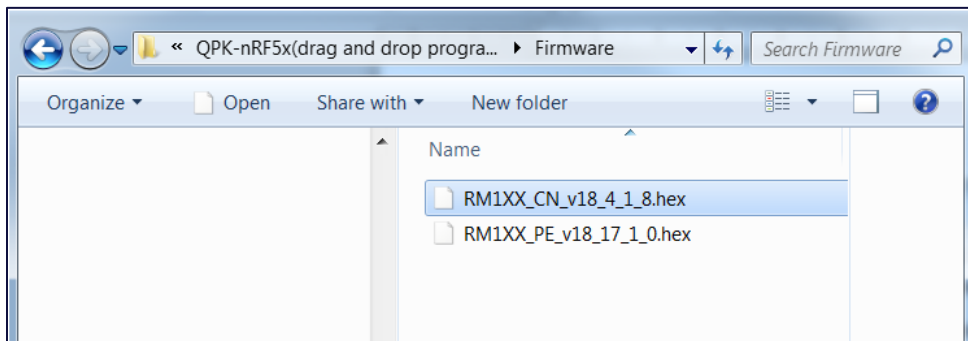

Figure 6: Download and extract the firmware on to your PC
4. Download the firmware from Laird website and extract it to your PC (Figure 6).